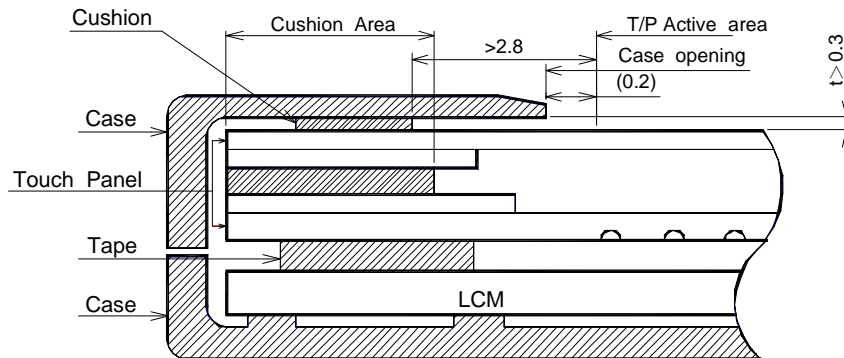

Fig. 13.1
- 1) Please refer to Fig. 13.1 for housing the display with touch panel into applications. The Fig. 13.1 shows some points as below:
1) The lot mark is showing in Fig.13.1. First 4 digits are used to represent production lot, T represented made in Taiwan, and the last 6 digits are the serial number.